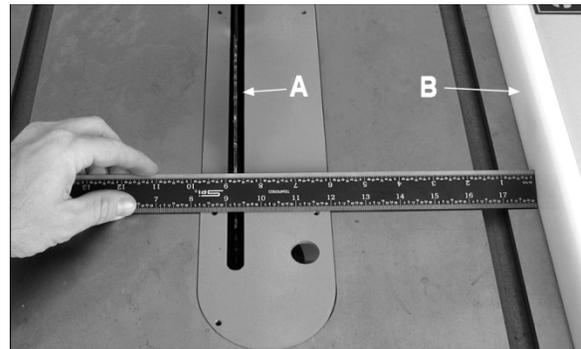

Figure 32
The *rip fence* (A, Figure 32) should be set for the width of the cut by using the scale on the front rail, or by measuring the distance between blade (A) and fence (B). Stand out of line with saw blade and workpiece to avoid sawdust and splinters coming off the blade or a potential kickback.